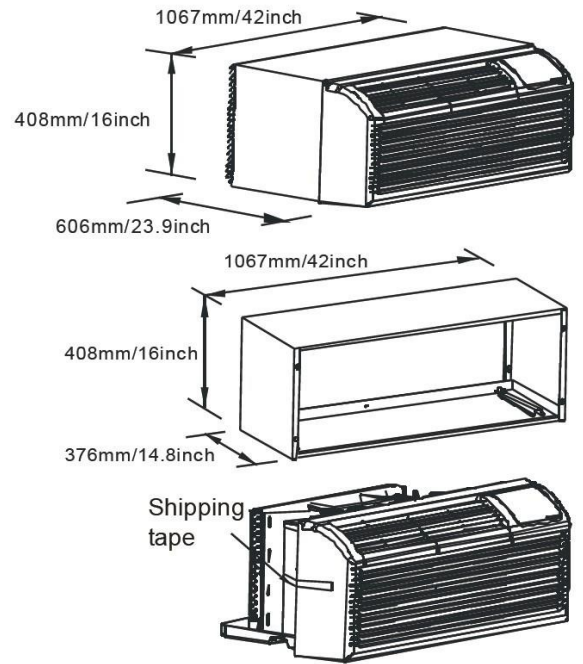

Fig.3
- Carefully remove shipping tapes from the front panel. (See Fig. 3)